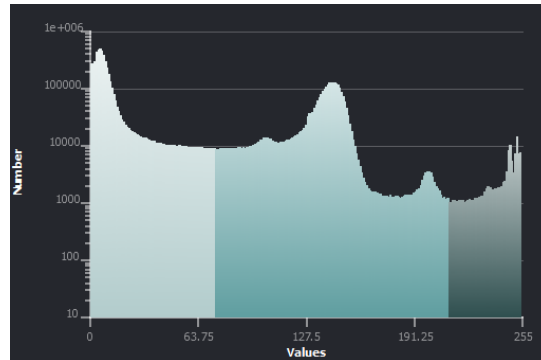

Figure 3.35: Histogram with 3 intensity ranges
- Set the Number of ranges to 3, and press Detect. You can see a new slider port and an updated histogram with a new region/range as shown on Figure 3.35.